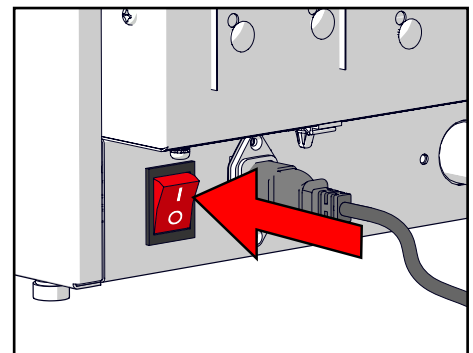

Figure 10.
6. Switch on the machine using the switch at the rear of the machine (see Figure 10).